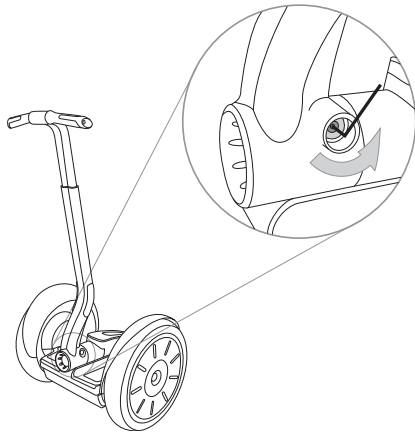

Figure 1. Loosen Fastener Holding LeanSteer Frame
2. To remove the LeanSteer Frame, use a 5mm hex wrench and remove the fastener holding the LeanSteer Frame in place. See Figure 1.